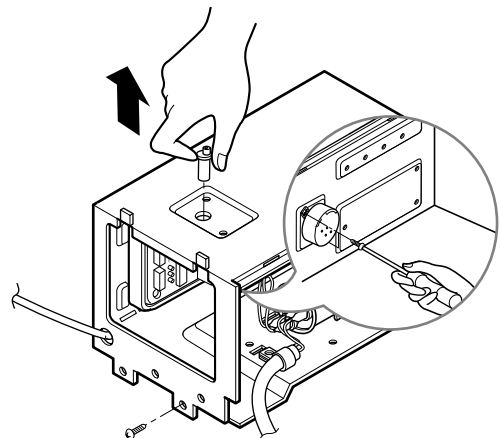

Figure 14
5. Remove the 2 screws which fasten the synchronous motor. (See Fig. 14)